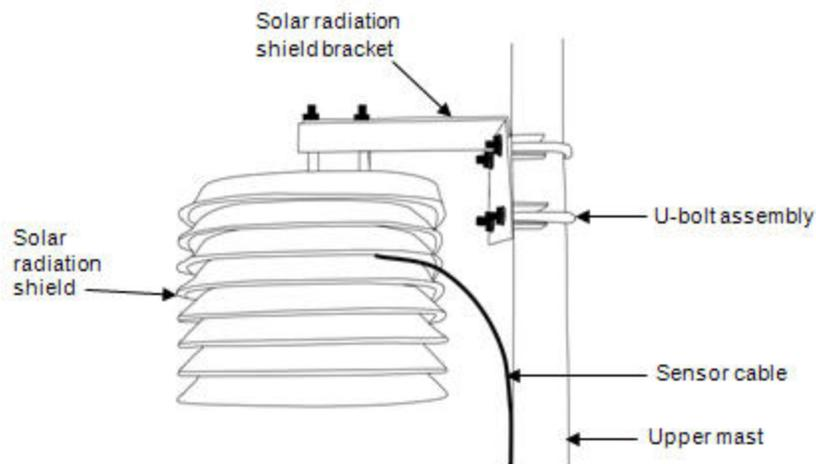

Figure 3: Mounting Solar Radiation Shield
3. Feed the cable out through the third and fourth shield plates (see Figure 3).
1. Mount the white solar radiation shield assembly onto the upper mast using the two U-bolts provided (see Figure 3).